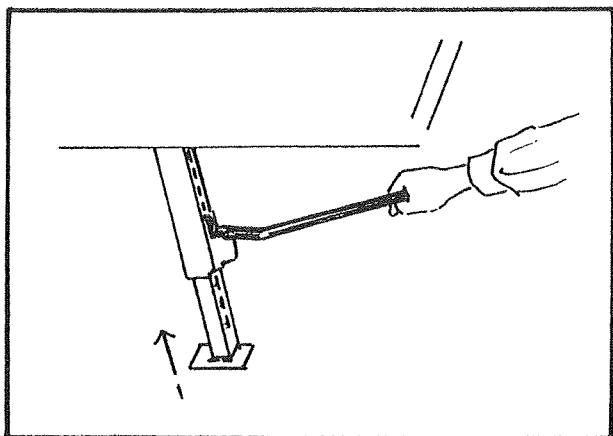

FIGURE 29
28. Place the stabilizer jack handle into the ratchet on the stabilizer jack and lift upward slowly. This releases the stabilizer jack and the corner of the trailer will drop somewhat. See Figure 29.